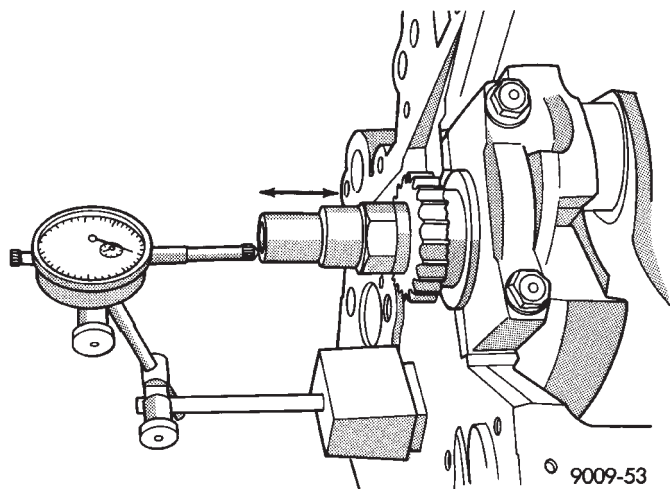

Fig. 19 Crankshaft End Play—Typical
- (1) Mount a dial indicator to front of engine, locating probe on nose of crankshaft (Fig. 19).
- (2) Move crankshaft all the way to the rear of its travel.
- (3) Zero the dial indicator.